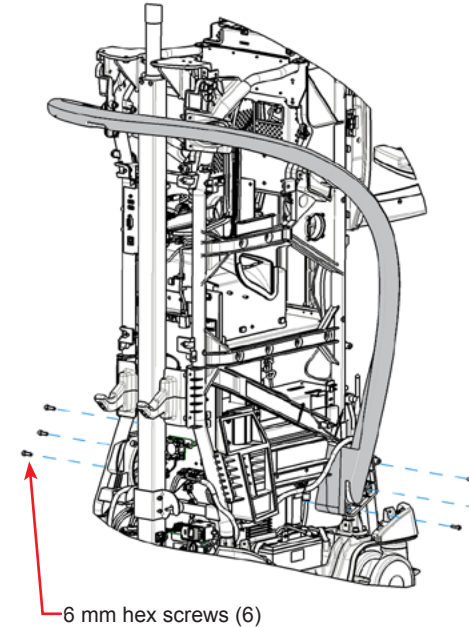

Figure 3-9 Handle Removal - Lower Screws
- 16.8 Remove six 6 mm hex screws securing Handle to the console (left and right sides - see Figure 3-9).